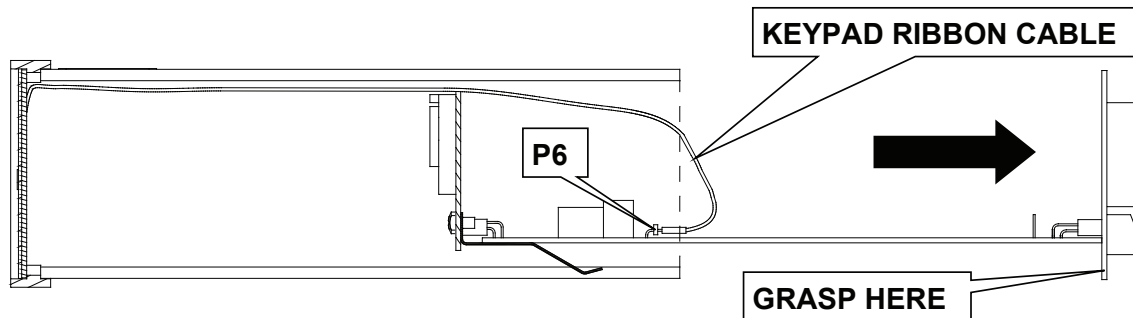

Figure No. 3
3. Referring to Figure No. 3, grasp the edges of the rear panel and gently pull it back away from the enclosure, sliding the main board assembly out of the enclosure.